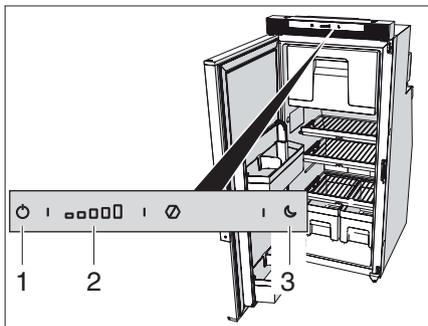

Fig. 89 Operating controls in the refrigerator
- ▶ Press the On/Off button (Fig. 89,1) again and keep pressed for a few seconds.
- ▶ Press or slide symbols on the refrigerator temperature setting button (Fig. 89,2) to select the desired cooling level.